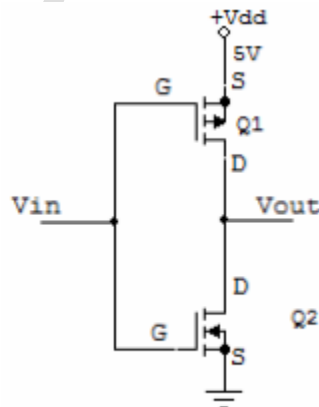

Figure 2: CMOS inverter
- a) Wire the circuit shown in Fig. 2. Vary the input voltage V_{in} from 0 V to 5 V in 0.1 V steps and measure the corresponding V_{out} with a DMM